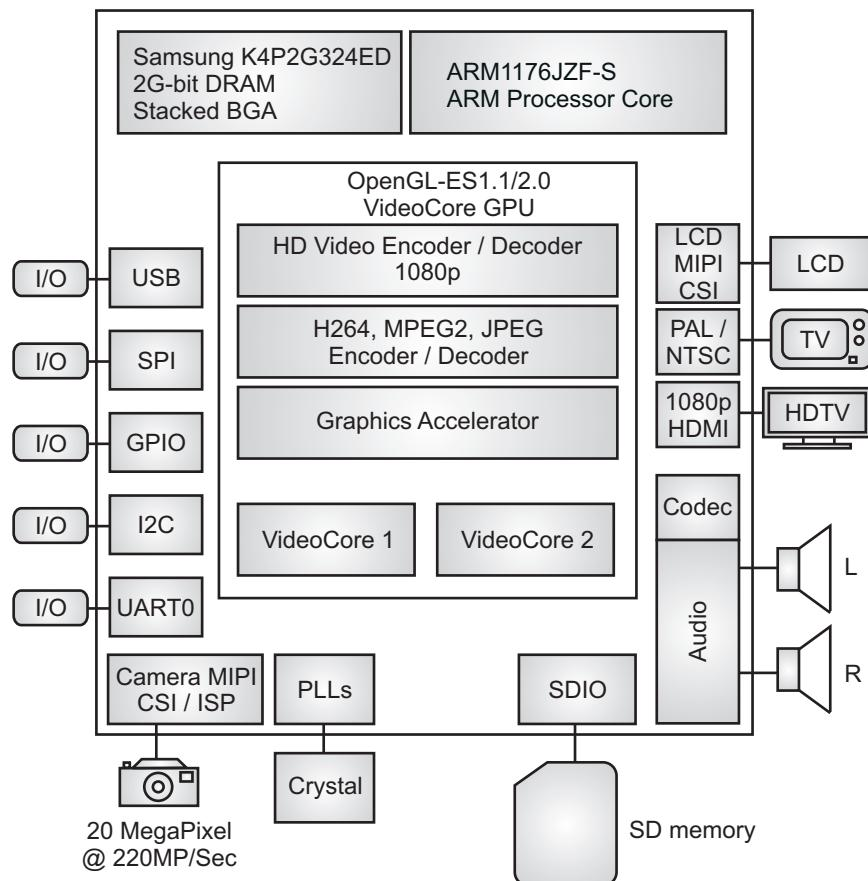

Fig. 2.5: Block diagram of BCM2835
- The details of BroadCom2835 are given below. The block diagram of BCM2835 is shown in below Fig. 2.5.